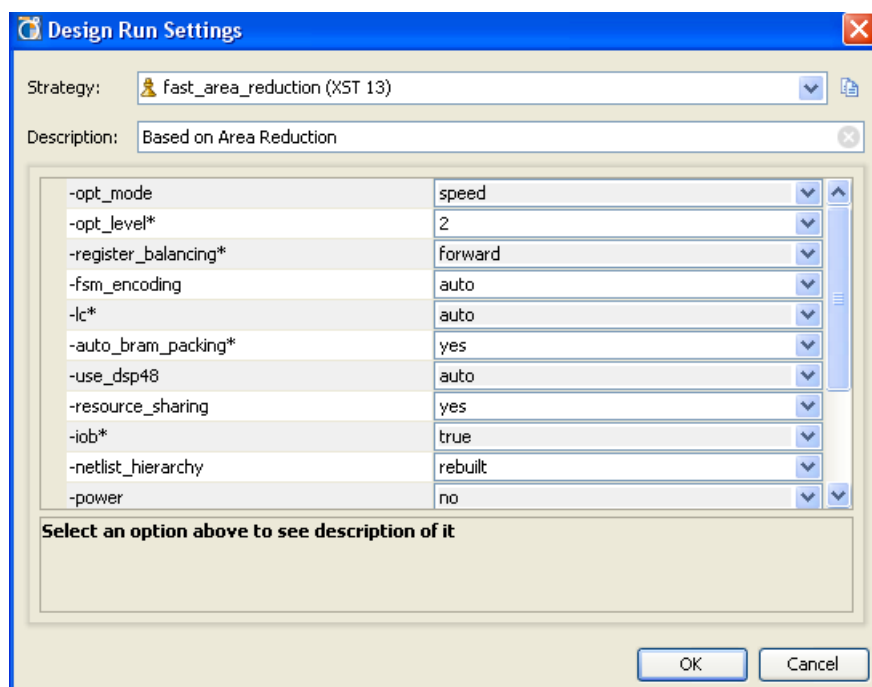

Figure 6-4: Design Run Settings for a Synthesis Run
- **Options** — Select the strategy to use for the synthesis run. Click the file browser button to open the **Design Run Settings** dialog box to modify XST command-line options for the run. Figure 6-4 shows the Design Run Settings dialog box.